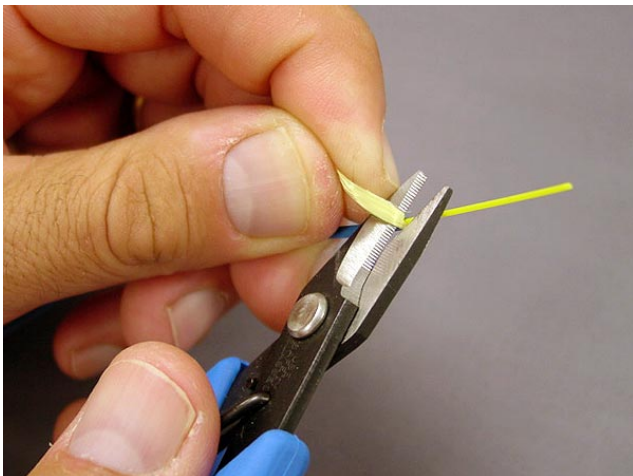

Figure 65
9. Using the aramid shears, trim the aramid yarn flush with the end of the jacket as shown in Figure 65. Repeat for second end.